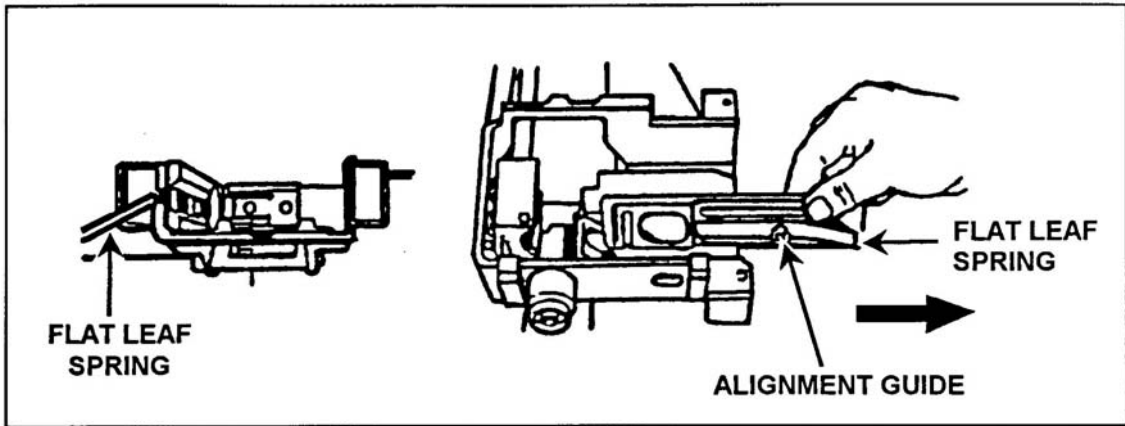

Figure 10. Removal of the alignment guide assembly.
- (4) Lift the tray out of the feeder.
- g. Remove the alignment guide assembly (Figure 10).